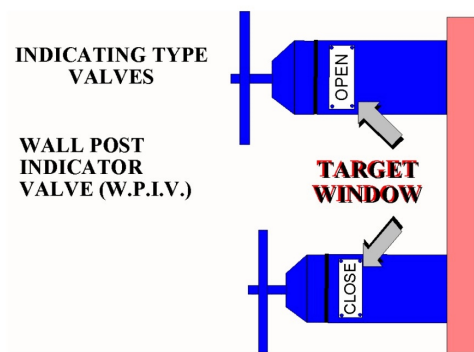

Figure 8
- On outside is a moveable target with the words “open” & “shut” to indicate if the valve is open or closed respectively [See Figure 8]